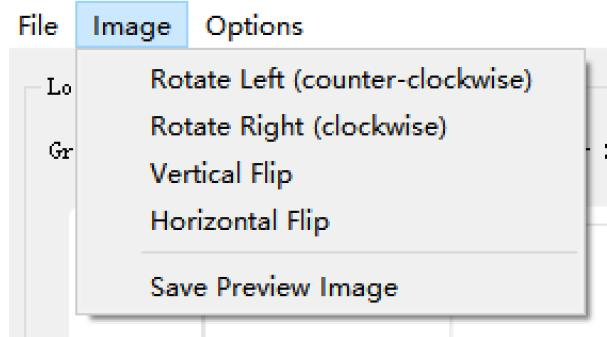

Figure 2-6-7
6. Image: Support image left and right rotation, vertical/horizontal flip transformation and save the adjusted image, as shown in Figure 2-6-7